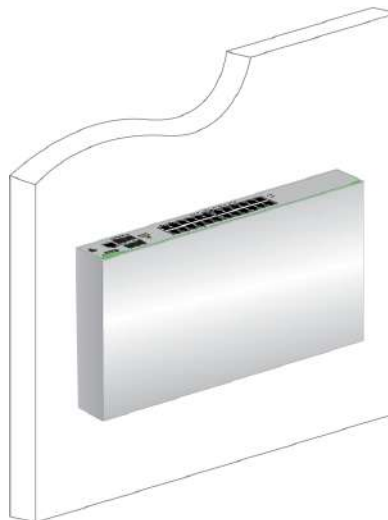

Figure 23. Correct Wall Installation
- ❑ The switch must be mounted on the wall in portrait orientation with the front panel facing up. See Figure 23.